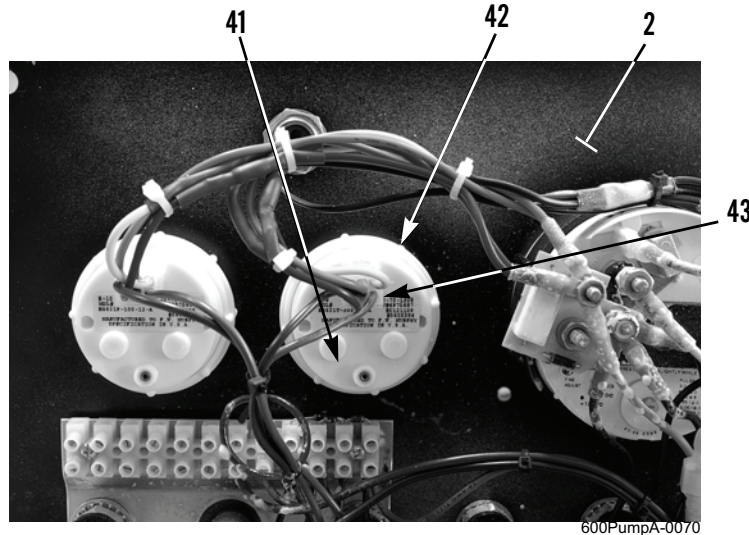

Figure 14. Oil Temperature Gauge.
1. Disconnect connector (Figure 14, Item 43) from oil temperature gauge (Figure 14, Item 41).
2. Remove retaining nut (Figure 14, Item 42) and oil temperature gauge (Figure 14, Item 41) from panel (Figure 14, Item 2).
1. Install oil temperature gauge (Figure 14, Item 41) and retaining nut (Figure 14, Item 42) on panel (Figure 14, Item 2).
2. Connect connector (Figure 14, Item 43) to oil temperature gauge (Figure 14, Item 41).